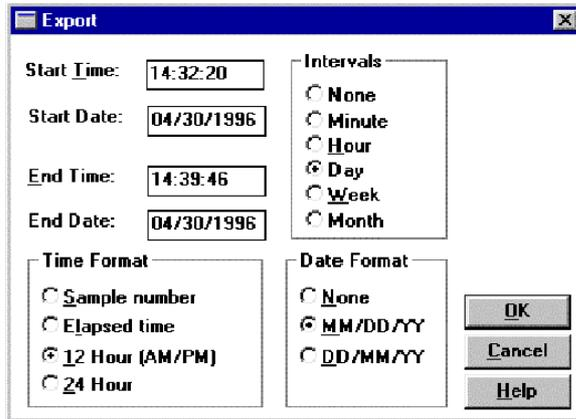

Figure 5 Export Dialog Box
5. **Export Dialog Box** - At this point the Export Dialog Box will appear to allow you to select how you want the file to be exported, as shown in Figure 5.
1. Graph Data - Select the "File - Export" option and you will be presented with an Export Menu Item dialog box. Select the name of your file and press OK. The Export File dialog box as shown in Figure 5 will then appear. The export dialog box allows you to select the Start and End Times, the format for the Time and Date, and optionally break the data up into smaller files, based on a Time Interval.